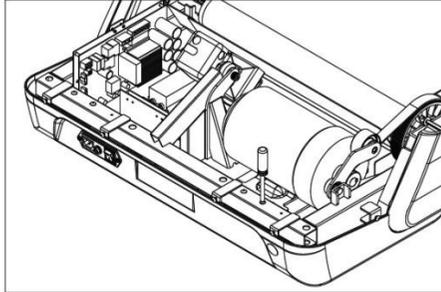

Figure 4.3.1
- 2) As shown in figure 4.3.1, use a screwdriver to remove the motor ground wire (green/yellow) and all wires which are connecting the motor and the control panel.